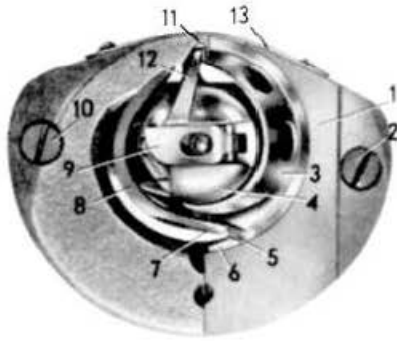

Fig. 7 Oscillating shuttle
- a. Shuttles that move in a race and are driven by a shuttle driver, such as the central-bobbin, or oscillating, shuttle depicted in Fig. 7, and